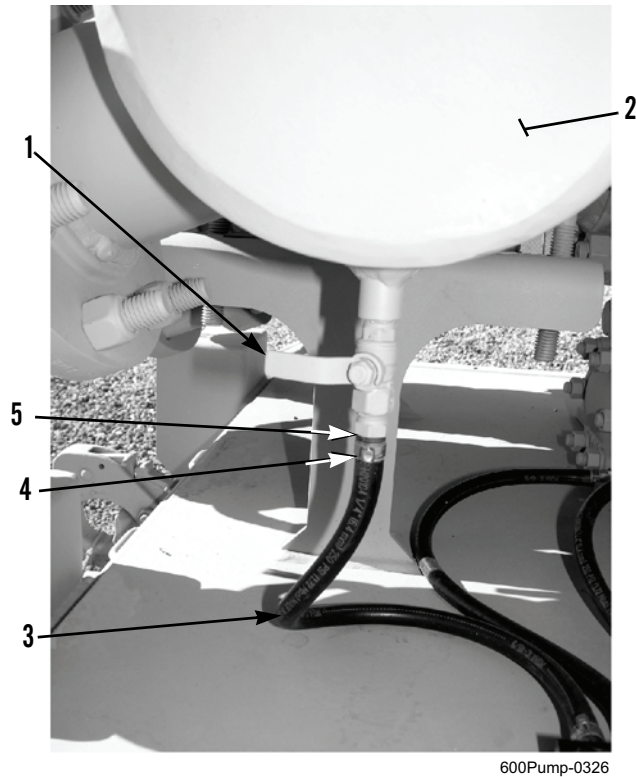

Figure 18. Suction Manifold Drain Valve and Hose.
16. Install suction manifold drain valve (Figure 18, Item 1) on suction manifold (Figure 18, Item 2).
17. Position new hose clamp (Figure 18, Item 4) on suction manifold drain hose (Figure 18, Item 3).
18. Hold suction manifold drain hose (Figure 18, Item 3) and install barb fitting (Figure 18, Item 5) on suction manifold drain valve (Figure 18, Item 1). Tighten hose clamp (Figure 18, Item 4).
19. Ensure suction manifold drain valve (Figure 18, Item 1) is closed.